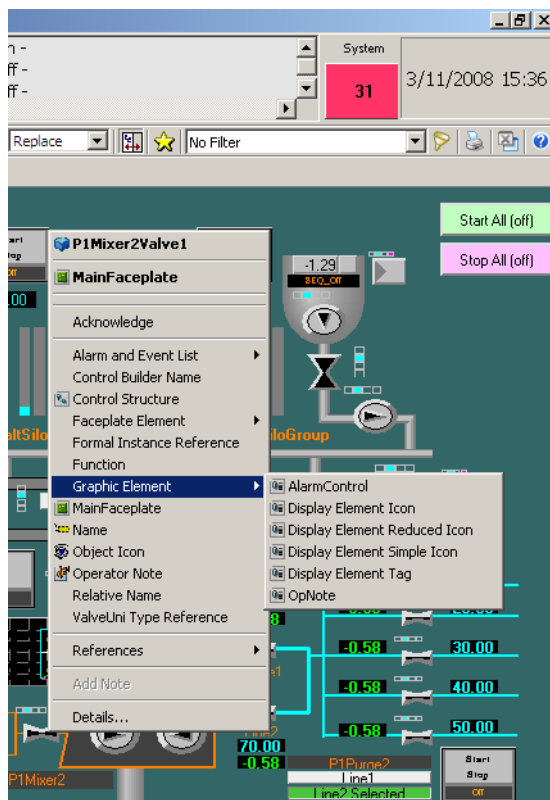

Figure 126. Example of a Submenu
6. To see the result, open a context menu for a process object in a graphic display. See Figure 126.